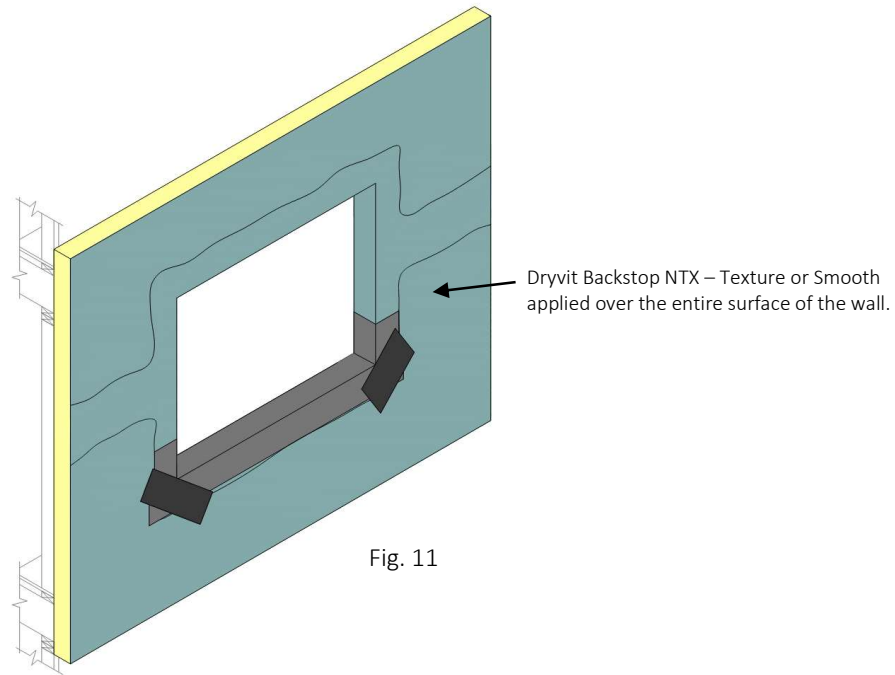

Fig. 11
- 4) Install the specified component (i.e. window, etc.) and associated flashings per manufacturer's directions and contract documents. Then apply Backstop NTX – Texture or Smooth to the remainder of the wall surface as described in Section 7 and lap over the previously installed material around openings – **Figure 11.**